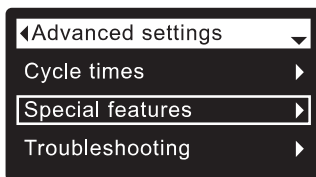

FIG. 136
3. Press the SELECT (O) button to display the Advanced settings menu (See Figure 136).